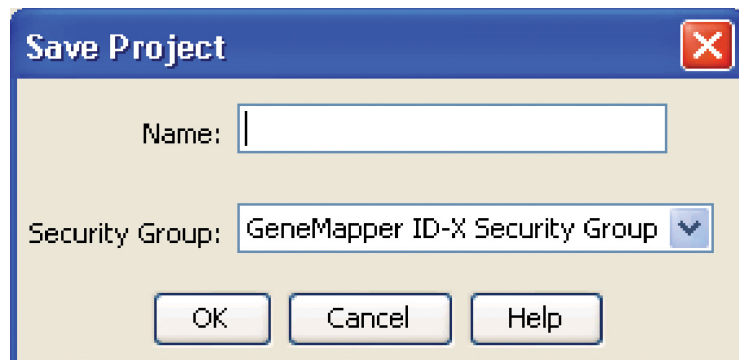

Figure 16. 'Save Project' window.
9. If all analysis requirements are met, the 'Save Project' window will open (Figure 16).
9. If all analysis requirements are met, the 'Save Project' window will open (Figure 16)